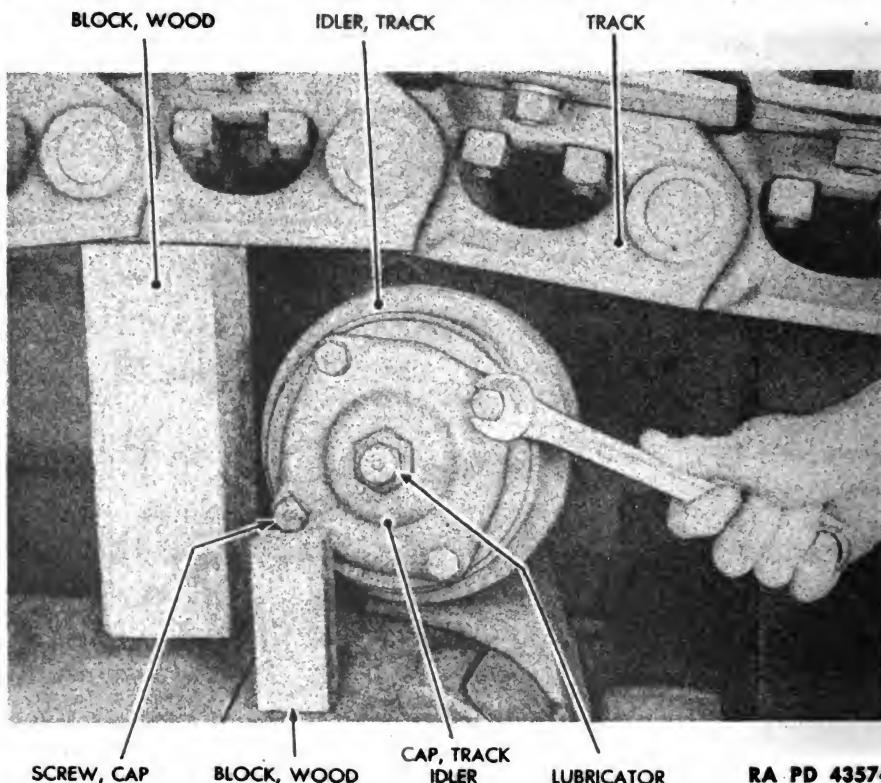

Figure 137 – Track Idler Removal
b. Procedure.**(1) RAISE TRACK ABOVE IDLER TO BE REMOVED (fig. 137).**
(2) REMOVE TRACK IDLER CAP (fig. 137).
(3) REMOVE LUBRICATOR FROM CAP (fig. 137).
(5) INSTALL LUBRICATOR IN TRACK IDLER CAP (fig. 137).